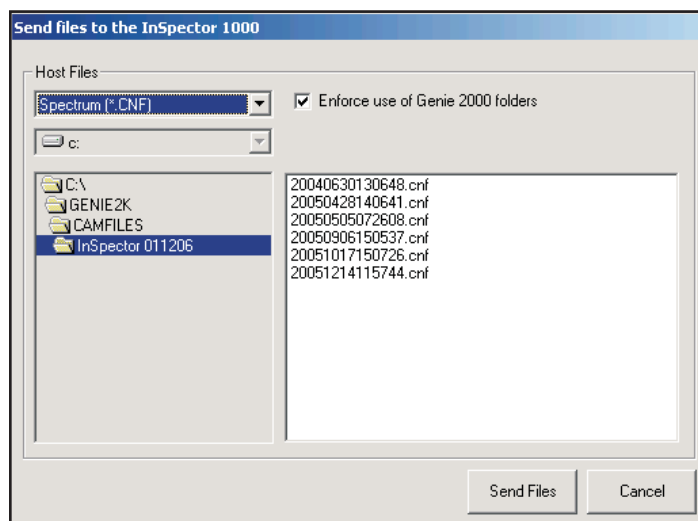

Figure 89 The Send Files List
2. The Send dialog defaults to spectrum (CNF) files. This can be changed in the file type list box. See Figure 89.